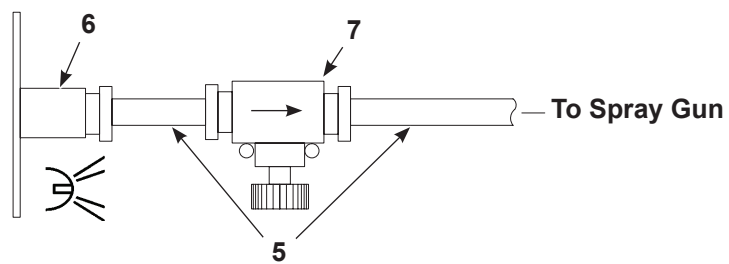

Figure 4 Flow Control Valve and Air Wash Tubing Connection
- a. Connect the 6-mm black tubing (4) to the purge air quick-disconnect fitting.
- b. See Figure 4. Connect the 4-mm clear tubing (5) and the flow control valve (7) supplied with the system to the air wash connector (6) on the spray gun controller as shown.